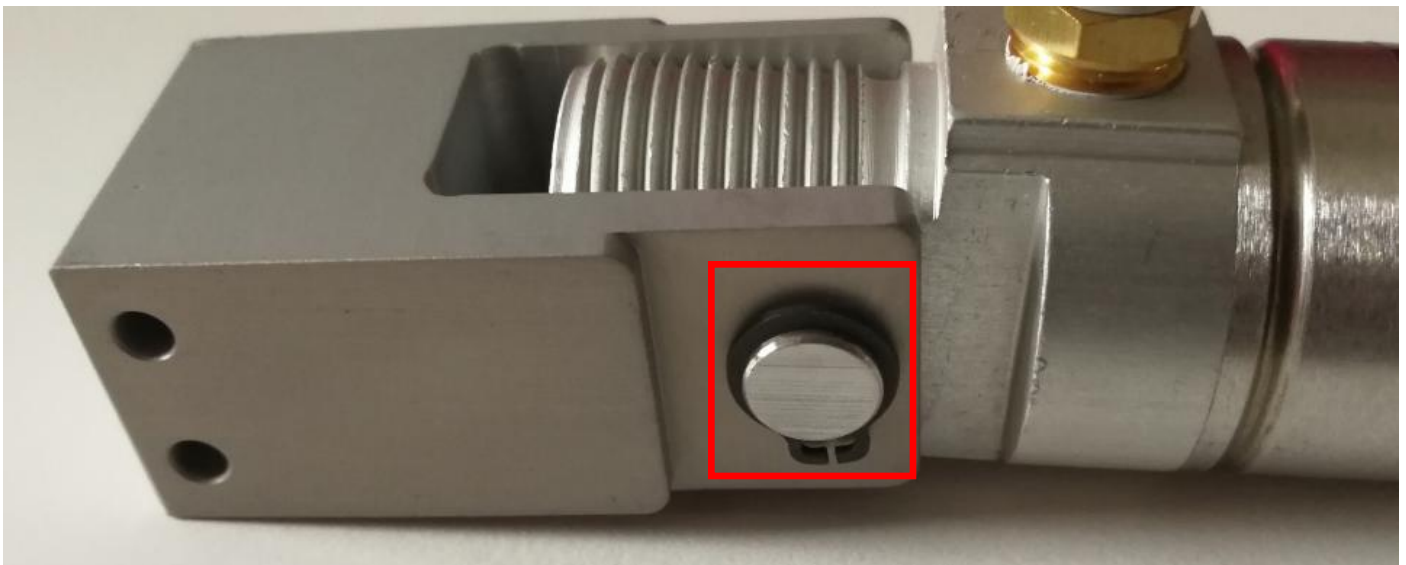

Figure 12
16. Remove 1 x C-Clip at Rear Cylinder Holder as Figure 12. Position C-Clip at visible location.